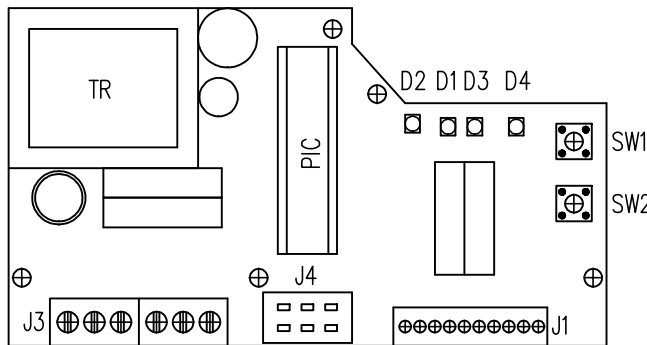

Fig.13
4.8 Adjustment of position controller (Fig. 13)
Laying of adjusters and signaling elements on the board of the REGADA controller is shown on Fig. 13: